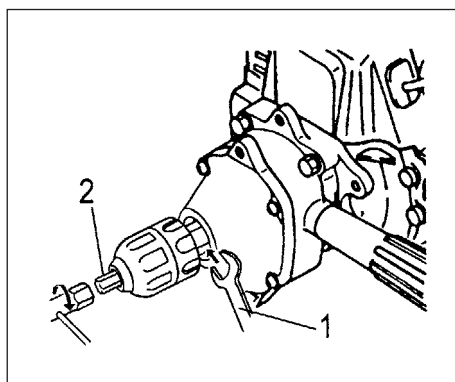

Fig. 2-7C
- To install or loosen the keyless chuck, set a 19mm spanner (1) between gear case and chuck to lock drive shaft. Install the locking bar (2) in the tool bag into the chuck, and then tighten (clockwise) the bar (2) with the enclosed box spanner or loosen (counter-clockwise). (Fig. 2-7C)